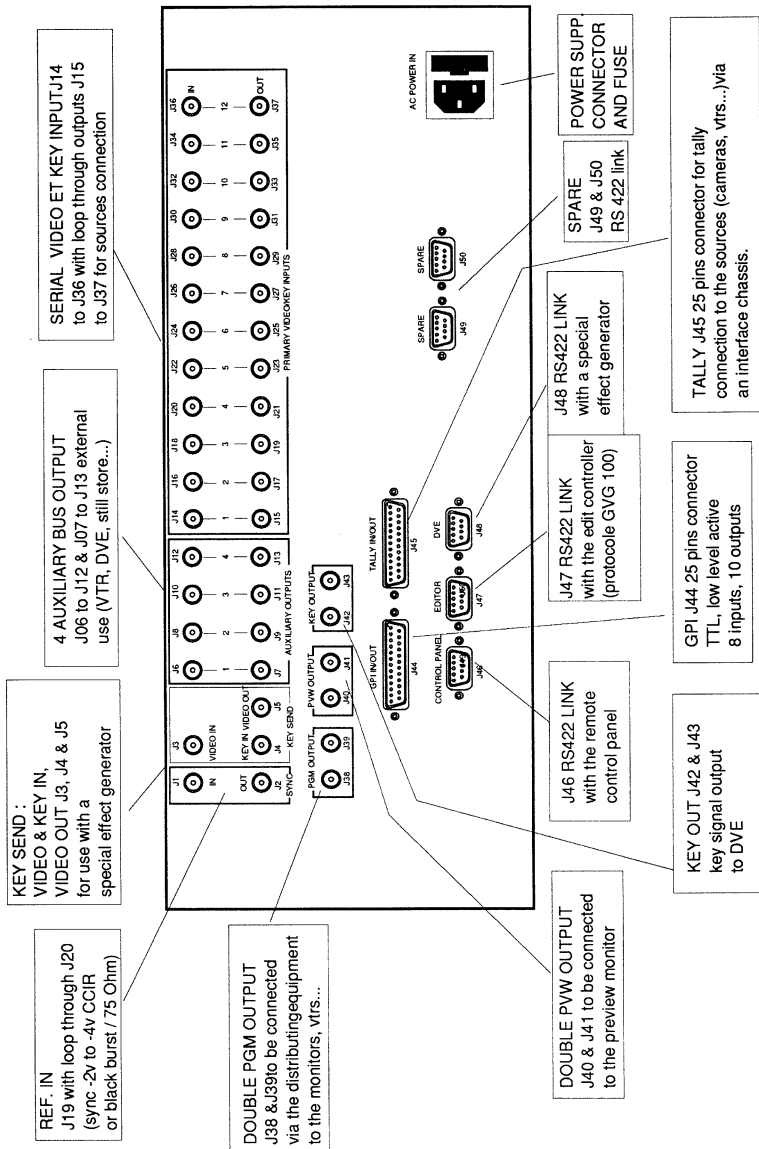

Fig. 11: main frame rear panel
(33) (1) 34 20 73 60
- Connect the equipment (EDITOR or DVE) to the 9 pins RS 422 connectors in the rear panel of the chassis (see fig. 11):